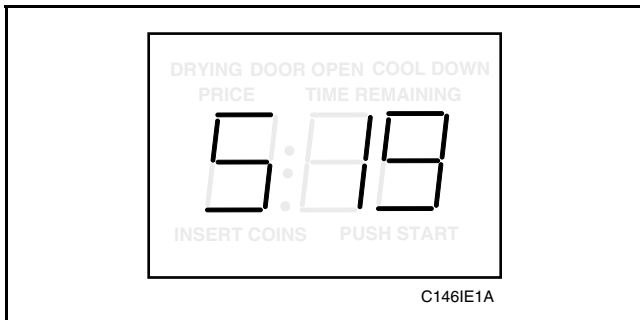

Figure 64
- While pressing and holding the HIGH TEMP pad with one hand, press the MED TEMP pad with the other hand. Programmable option number 1, (Audio Signal “SIg”), will appear in the VFD, *Figure 64*.